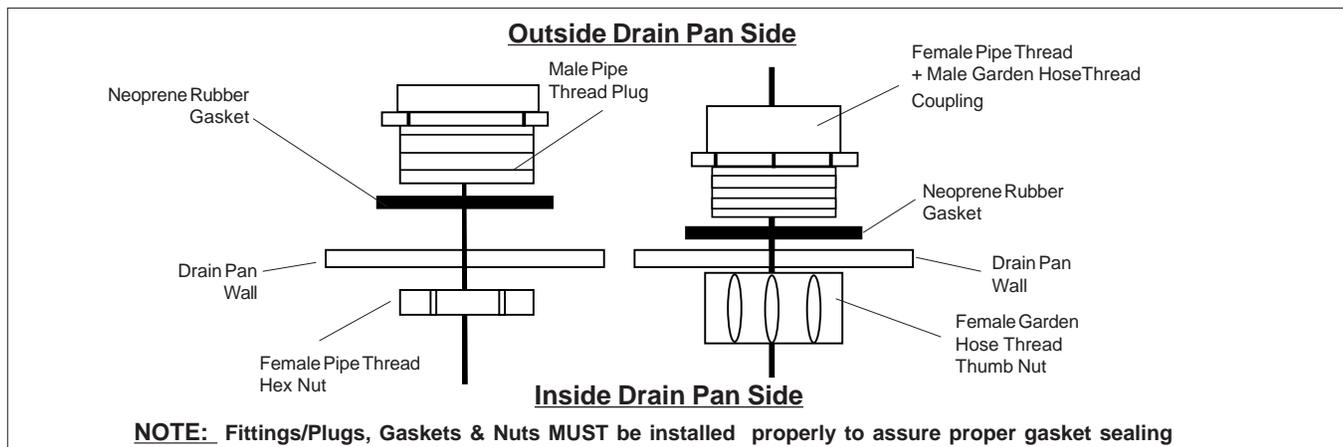

Figure 1. Fitting/Plug, Gasket, Locknut Configuration
- 4) Install the garden hose fittings in the drain pan as shown in Figure 1, 2 and 4. Tighten the nuts until they are finger tight and then add 1/4 turn. **Do Not Overtighten.**
- 5) Replace the plastic plugs from the drainpan assembly with the female garden hose couplings supplied in the parts bag. Insert the plug assemblies into the two unused holes in the drainpan. Be sure the plugs and couplings are installed in the horizontal drainpan as shown in the Figure 1, 2 & 4. Tighten the nuts finger tight and then add 1/4" turn. **Do Not Overtighten.**